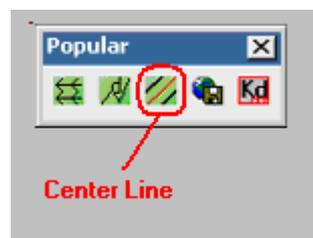

Figure 19
- Figure 19 : Drawing center line of streets and lanes.